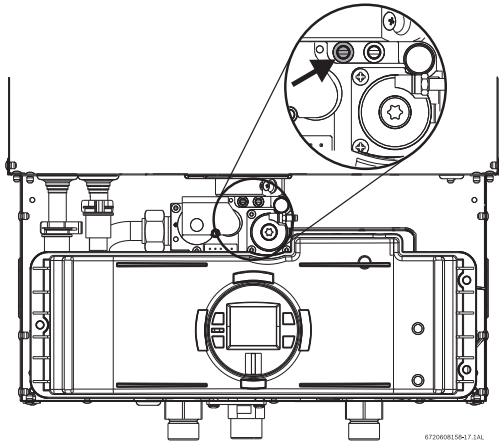

Fig. 44 Gas pressure test port (left tapping)
- ▶ Remove front cover and locate inlet gas pressure test port (see Fig. 44).